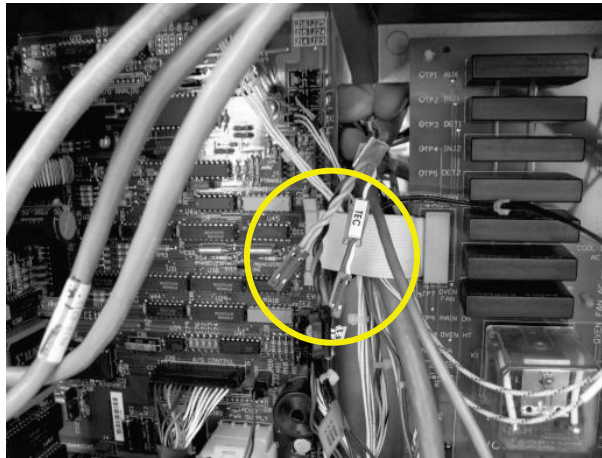

Figure 35 Passing the connectors of the remote cable (circled) into the GC electronic compartment
25. Feed the two remaining connectors of the remote I/O cable into the compartment, as shown in Figure 35.